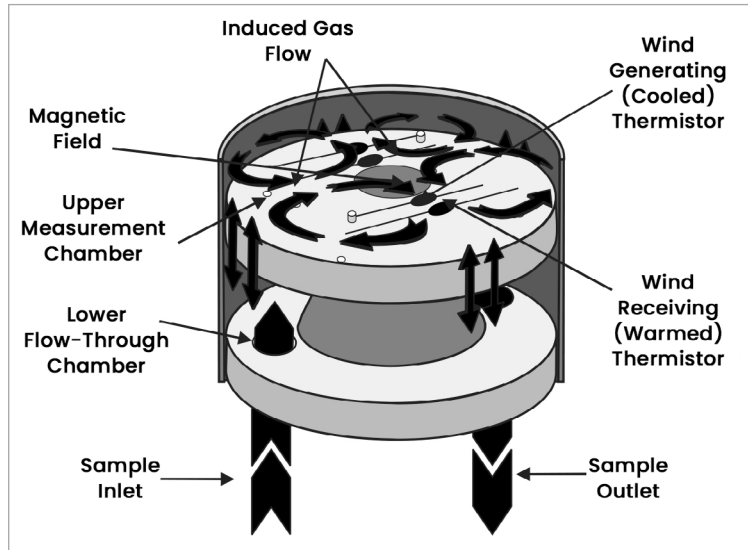

Figure 1: Measuring cell flow schematic
*Figure 1* below shows a flow schematic for the XMO2 measuring cell. Permanent magnets within the cell create a magnetic field, while the cell temperature is controlled at 45°C (113°F) to maintain thermal equilibrium. In addition, the cell contains two pairs of highly-stable, glass-coated